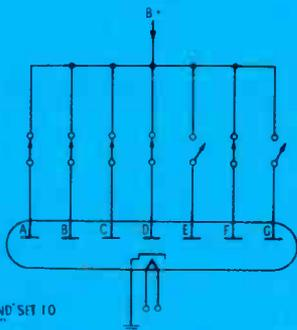

Fig. 7 One type of display for desk calculators has segments that light in the same way as the old tuning-eye tubes.
**Fluorescent display tubes** come in either grid or gridless types (Figure 7). The segments are coated with P-15 (blue-green) phosphor. A heated cathode emits electrons which cause a segment to glow only when it is connected through a decoder switch to a B+ source of about 25 volts. (Old-style tuning-eye tubes operated by the same princi-